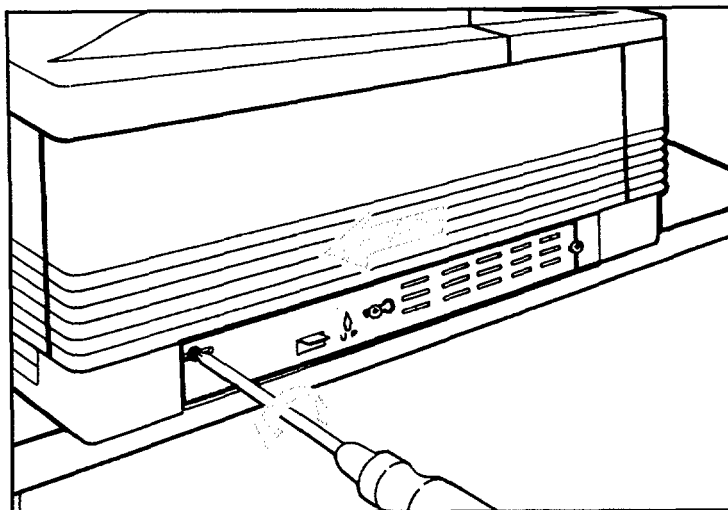

Figure C-3. Metal Cover Plate Removal
4. Loosen the three captive screws (they cannot be removed) securing the metal cover plate (see Figure C-3). Grasp the metal tab and slide the plate to the left (rear), then remove it by pulling on the tab. To discharge static electricity which could damage the board or sensitive internal printer components, maintain contact with bare sheet metal printer surfaces during installation.